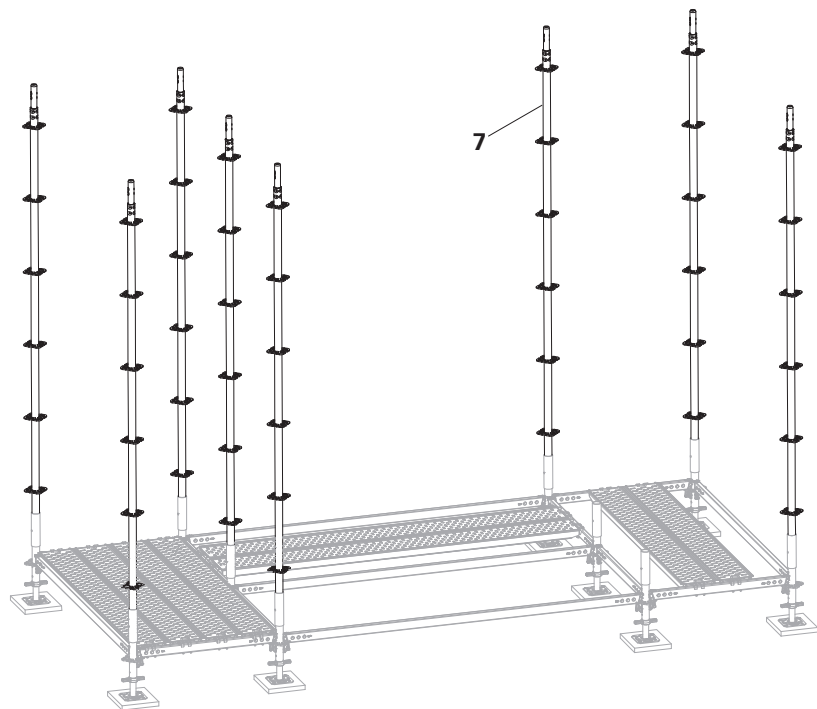

Fig. A2.01
- Fit all Standards UVR-2 300 (**7**) apart from two pieces. (Fig. A2.01)